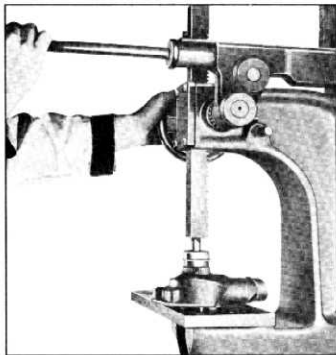

Fig. 127—Installing Shaft and Housing into Rotor
5. Lay the rotor and seal assembly on a flat surface on an arbor press and carefully press the shaft and housing assembly into the rotor (fig. 127).